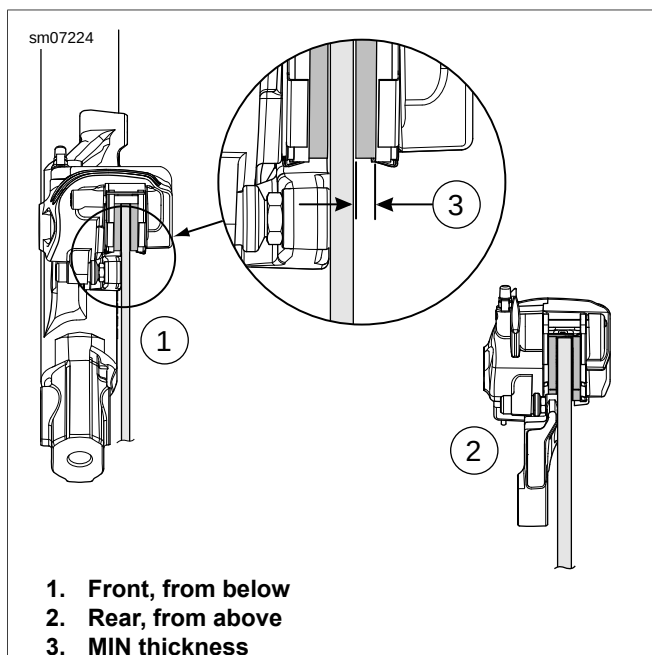

Figure 1-40. XL Brake Pad MIN Thickness
See Figure 1-40. Replace brake pads if brake pad friction material on either the front or rear caliper is worn to 0.04 in (1.02 mm) or less (3) above the backing plate. Always replace both pads in a caliper as a set. See 1.16 BRAKE PADS AND DISCS: XL MODELS, Brake Pad Replacement: Front or 1.16 BRAKE PADS AND DISCS: XL MODELS, Brake Pad Replacement: Rear.